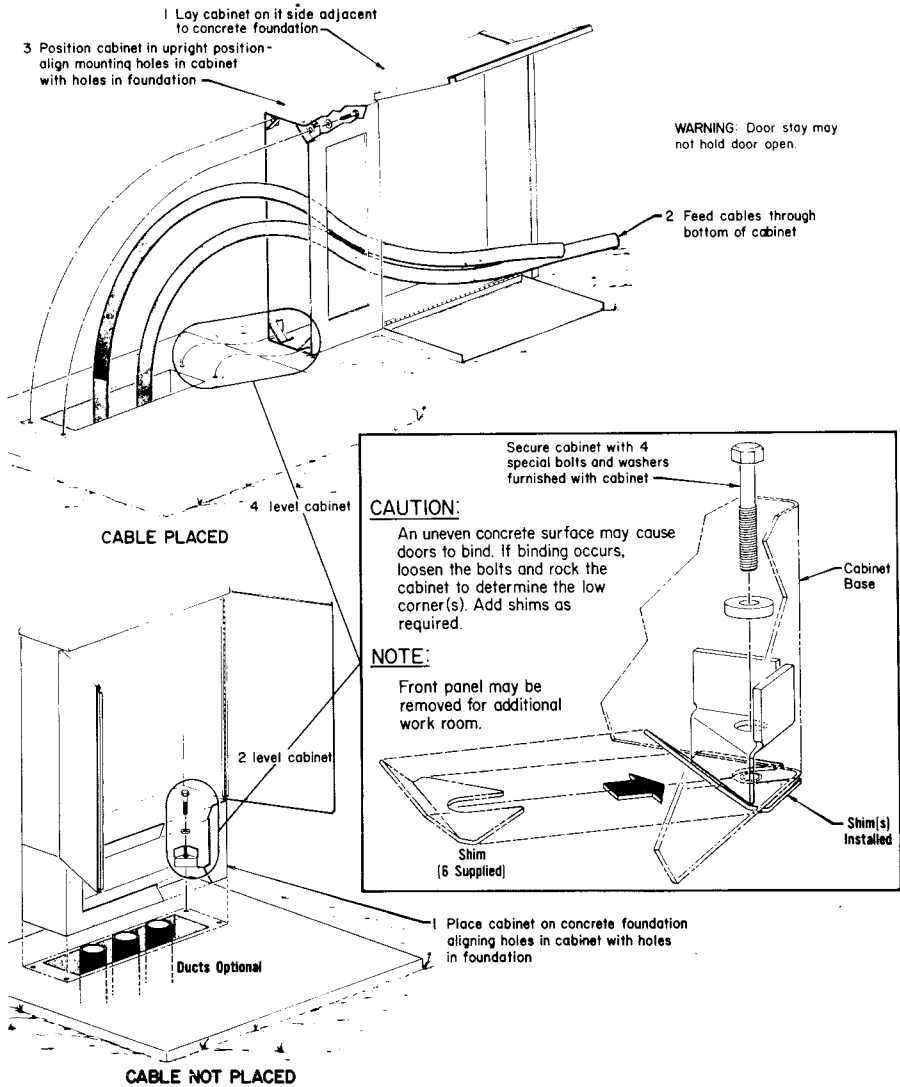

Fig. 5—40A, B, C, D, and E Cabinets Installation on Pedestal
4.04 Secure a 40A, B, C, D, or E cabinet to concrete foundation as shown in Fig. 5. The required bolts and washers are supplied with the cabinet.